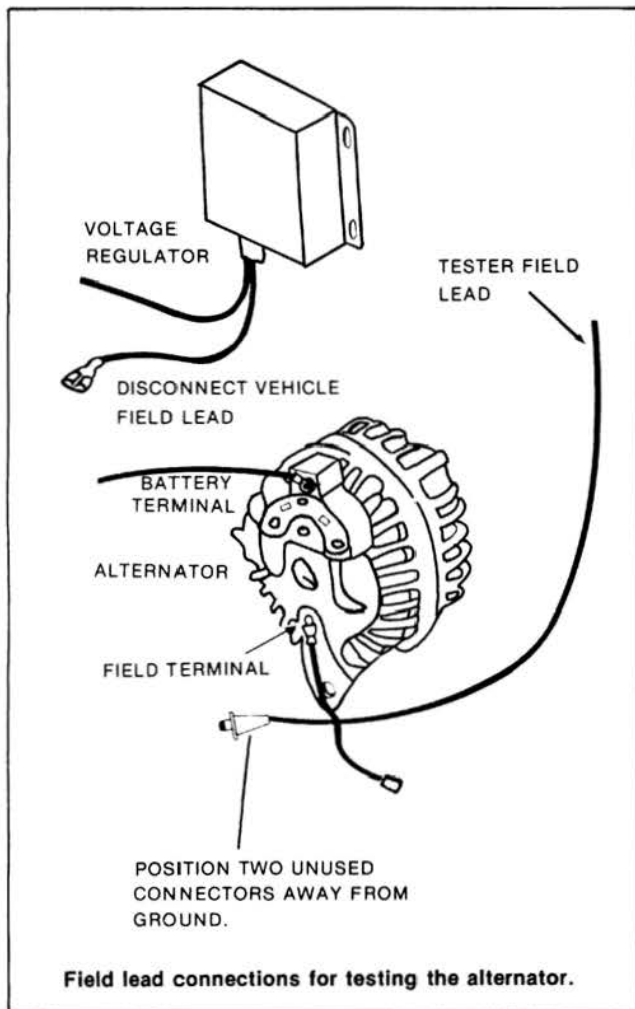

Figure 5
A. Stop engine and **disconnect the vehicle lead from the alternator field terminal** (or disconnect the regulator connector plug if field terminal is inaccessible). See Figure 5.